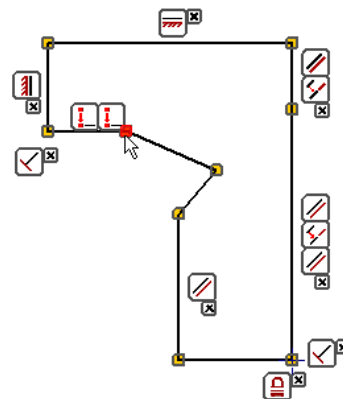

Figure 3-6 The constraint boxes showing the constraints applied to the entities
You can view all constraints that are applied to the entities of a sketch by choosing the **Show Constraints** tool from the **Constrain** panel. When you invoke this tool and move the cursor close to any sketched entity, it will be highlighted and boxes will be displayed after a pause. These boxes show the symbols of all constraints that are applied to the entity. The symbols of the constraints will be highlighted in yellow box. Select the entity to retain the constraint box; the constraint box will be displayed with the constraints in a white background. Figure 3-6 shows the constraint boxes along with the constraints applied to the lines. You can move this box by selecting it and dragging. To close a box, choose the cross (X) on the extreme right of the box. In the case of Coincident Constraint, the constraint applied on a point is highlighted in yellow, instead of a box. To view symbols, move the cursor over the highlighted yellow point; the yellow point will be highlighted in red border and the symbols will be displayed in boxes, refer to Figure 3-6.